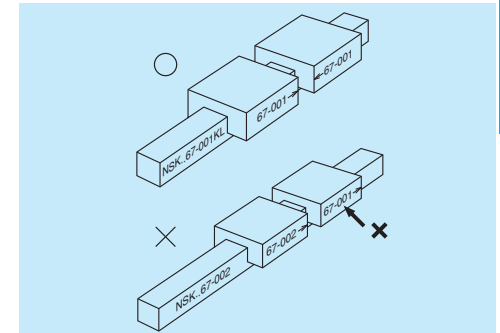

Fig. 10.28
- In case that the slides had to be removed from the rail, confirm their serial numbers and the directions of arrows for re-assembly (Fig. 10.28).